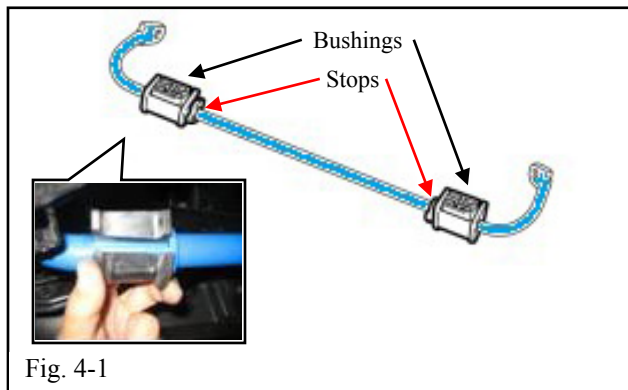

Fig. 4-1
- (a) Install the two rear sway bar bushings (black arrows, Fig. 4-1) to the rear sway bar on the outside of the bushing stops (red arrows, Fig. 4-1).